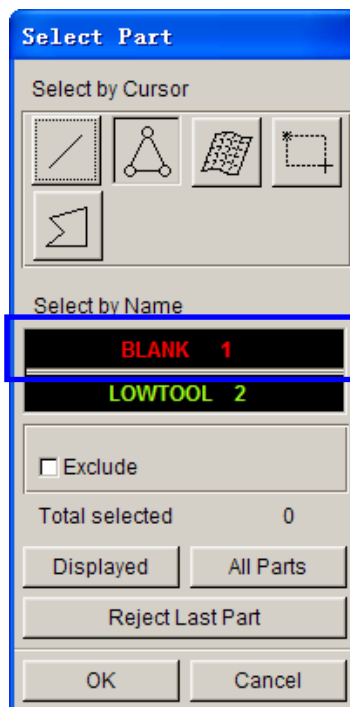

Figure 70: Select Part dialog box
4. Click **Add Part...** button to display the **Select Part** dialog box. Use your mouse cursor to pick the **BLANK** part in the dialog box (shown in Figure 70).